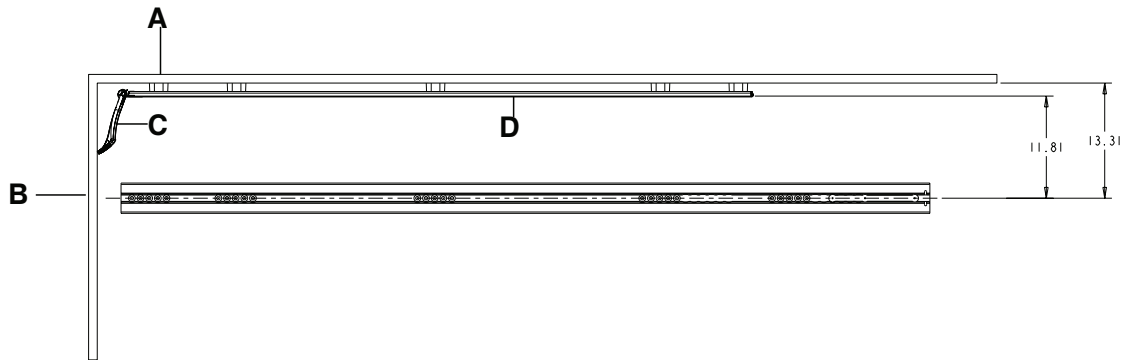
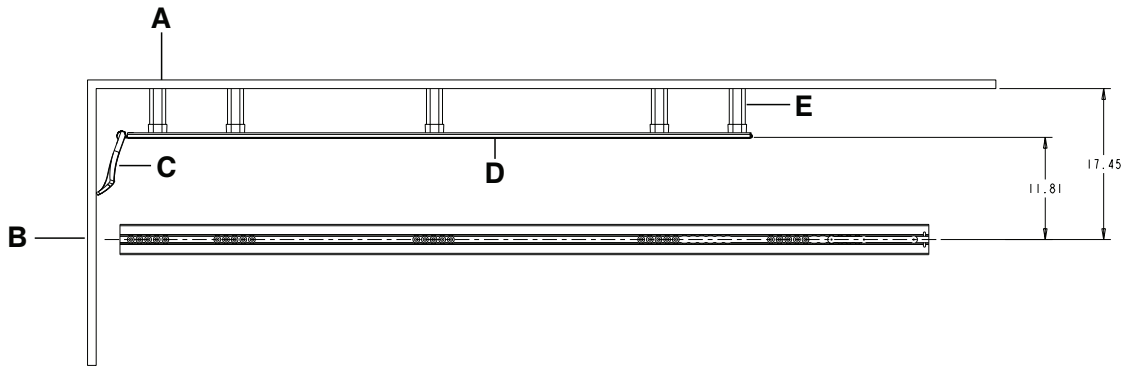

Figure 1 – Wheel guide installation without spacers
Figure 2 – Wheel guide installation with spacers
- Using a tape measure, measure from the center line of the floor plate to the wall (cabinet) on the driver's side of the vehicle patient compartment (Figure 1 or Figure 2).
12. Using a 7/16" socket with a 3/8" drive ratchet and a 7/16" combination wrench, install the screws (selected in step 11) to secure the wheel guide rail to the wheel guide support through the spacer (6390-001-173) (D), if required, then to the wall of the vehicle patient compartment see Figure 1 or Figure 2.
13. Using a T25 Torx driver, install the two pan head machine screws (0023-296-000) (B) to secure the wheel guide cap (6390-001-178) (H) to the head end of the wheel guide rail.
14. Slide the wheel guide rail bumper (6390-001-175) (F) over the wheel guide rail from the foot end of the vehicle patient compartment to the head end.
15. Using a 5/32" hex wrench, install the two flat head cap screws (0001-195-000) (A) through the wheel guide assembly (6390-001-017) (C) hinge and the wheel guide rail to the wheel guide nut (6390-001-191) (J).
16. Install the two toplock locknuts (0016-060-000) (M) and four wheel covers (6390-001-206) (L) to the patient right side of the cot that is to be used with the wheel guide assembly. See *Installing the cot wheel covers* (page 3).